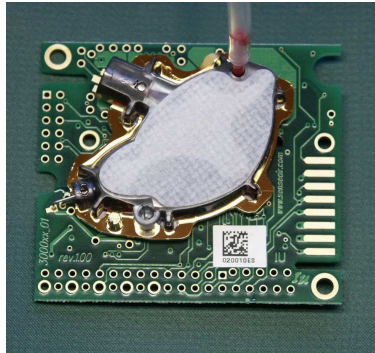

Figure 4. K30 with connected tube
1. Connect the sensor on top with a tube (soft tubing 2x4 mm) and a nipple (nylon tubing 30x0.8x2.2 mm), see Figure 4 below. There are 2 alternative positions for nipple attachment.